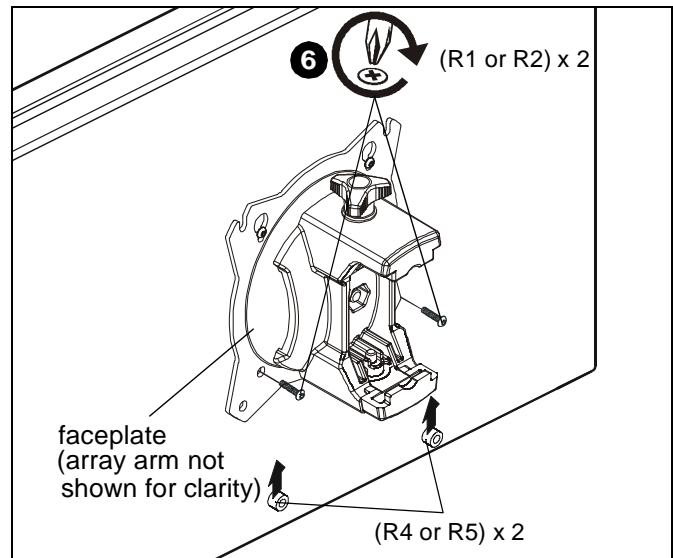

Figure 14
- Slide two remaining selected spacers (R4 or R5) in between faceplate and display, positioning them over the *lower* two mounting holes. (See Figure 14)
- Install two remaining selected screws (R1 or R2) through *lower* two mounting holes on faceplate, selected spacers (R4 or R5) into the *lower* mounting holes on the display. (See Figure 14)